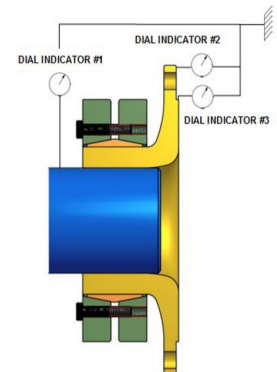

Fig. 6 Coupling half installed (MAV 2008 tightened) - check of runout
7. Using dial indicators, check flange runout as illustrated in figure 6.